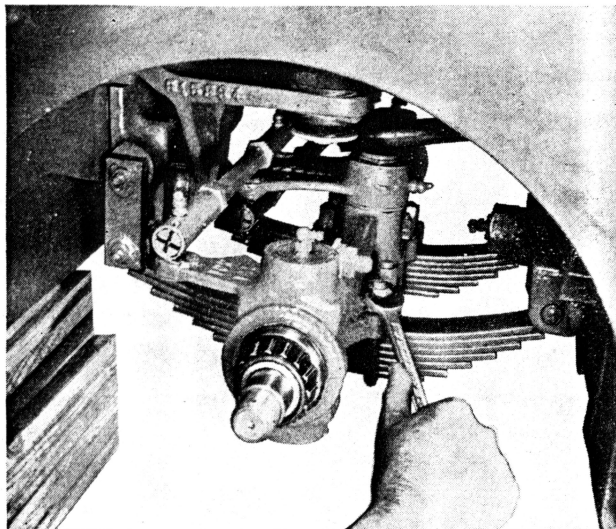

Fig. 27
4. Remove the axle "U" bolt nuts from the spring "U" bolts. Remove bolts. (Fig. 27.)